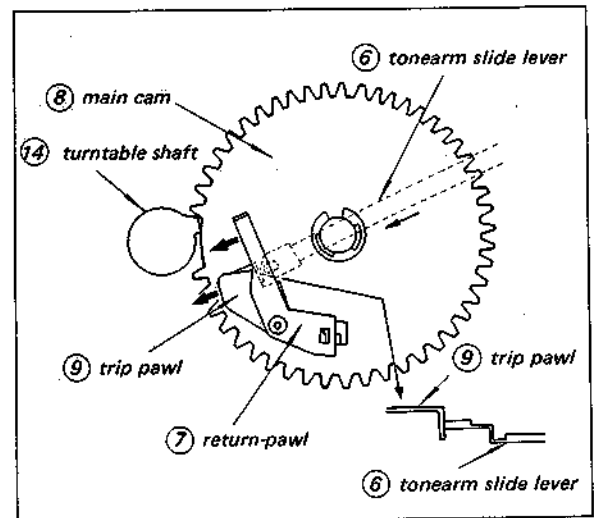

Fig. 1-5. Return pawl movement
When the stylus tip enters the lead-out groove, the tonearm slide lever (6) pushes the trip pawl (9) on the main cam (8) towards the turntable center along with the return pawl (7) by means of friction between them as shown in Fig. 1-5.